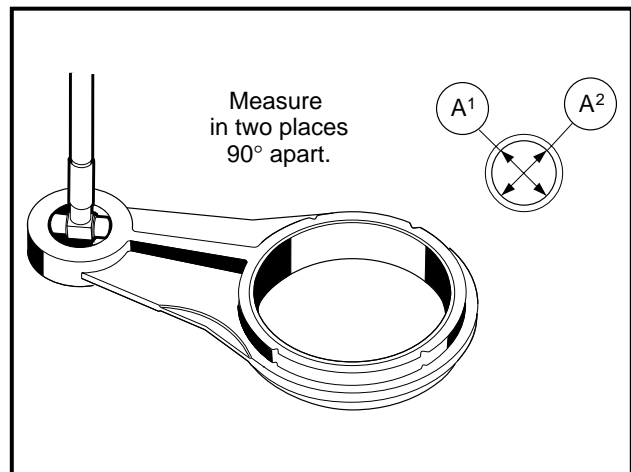

Figure 13-78 Measure Link Rod Small Bore I.D.
- 1.2. If the inside diameter of the small end is greater than 0.4746 inch (12.057 mm), replace the link rod (**Figure 13-78, Page 13-37**).